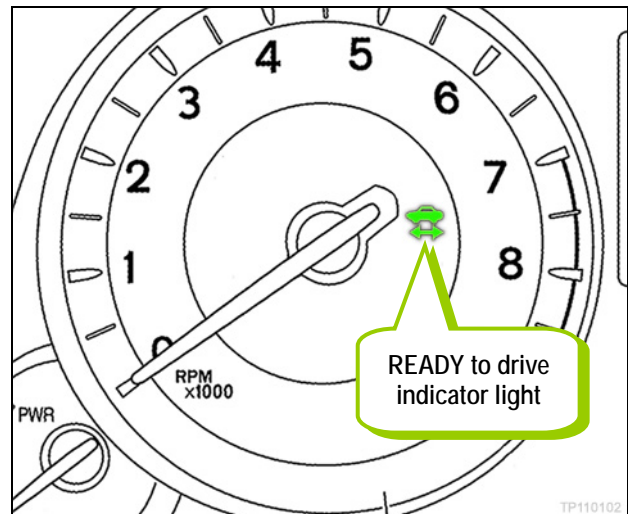

Figure 1
- The vehicle should now be in "READY to drive" mode (see Figure 1).